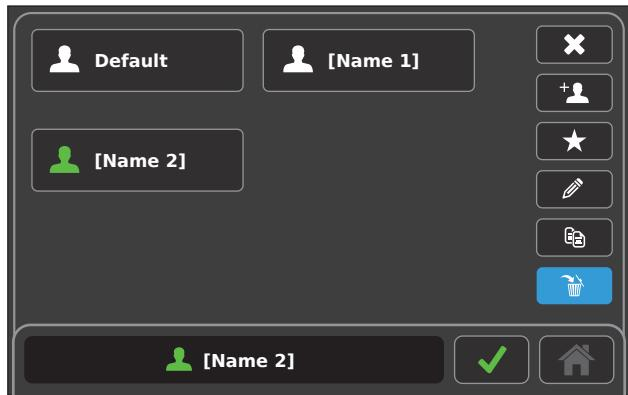

Figure 66 – Delete Preset Selection
- Touch the desired preset to be deleted. Touch the DELETE button (Figure 66).